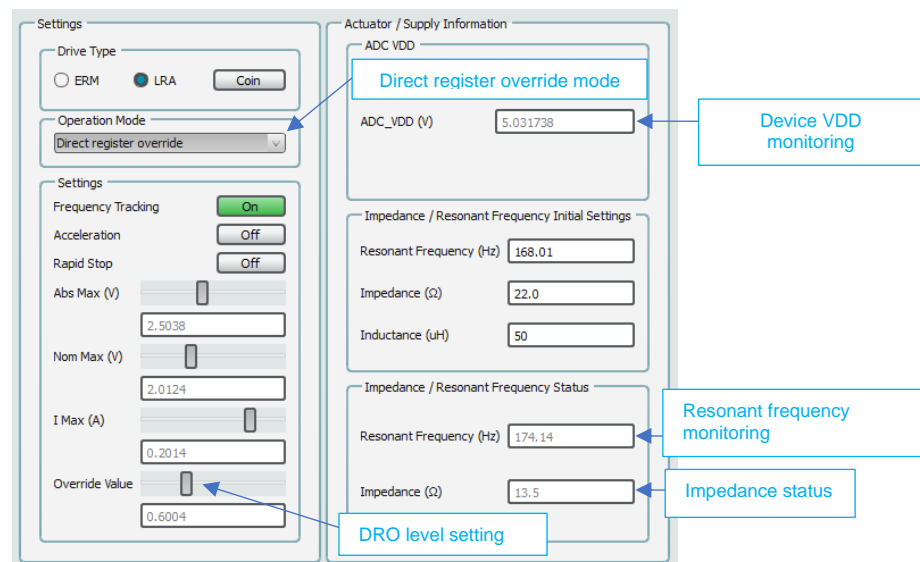

Figure 41. SmartCanvas DA728x GUI in DRO mode
In the direct register override (DRO) mode, the haptic sequences are streamed to DA728x through the I2C input. The drive level of the output is set through **Override Value** in Figure 41.
2. At the lower left side, in the **Settings** section, set the value in **Override Value** (Figure 41).